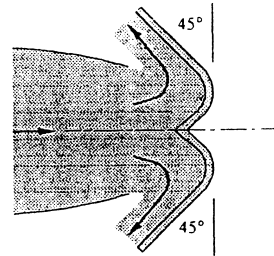

Fig. P3.71
**3.71** Suppose that a deflector is deployed at the exit of the jet engine of Prob. 3.50, as shown in Fig. P3.71. What will the reaction  $R_x$  on the test stand be now? Is this reaction sufficient to serve as a braking force during airplane landing?